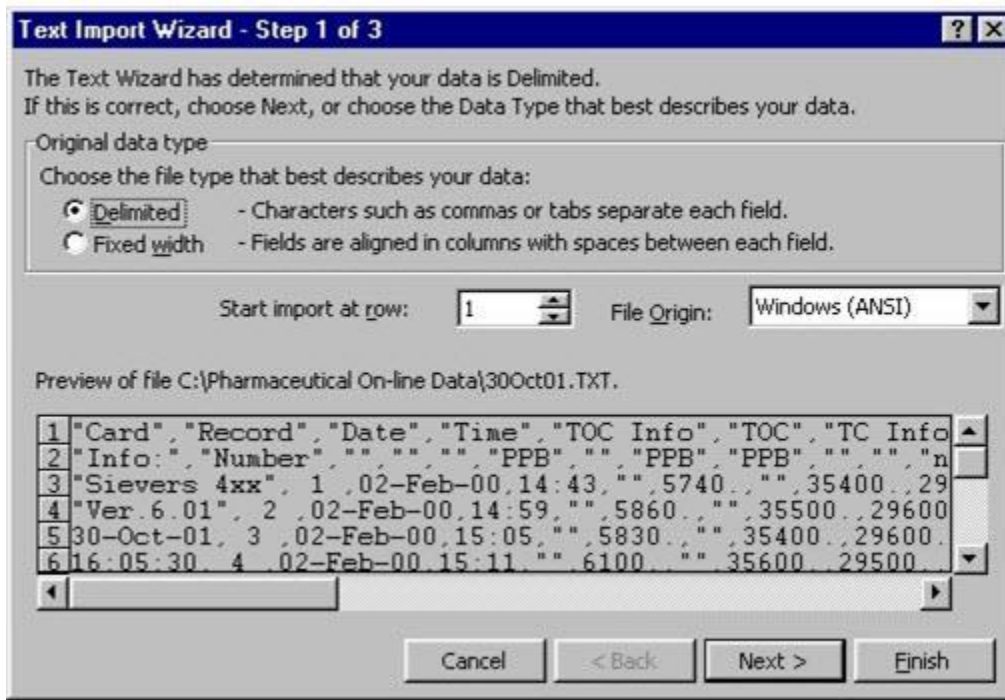

Figure 48: Text Import Wizard – Step 1 of 3
8. If the “Text Import Wizard” dialog box appears (Figure 48: Text Import Wizard – Step 1 of 3), verify that **Delimited** is selected, and then click the **Next** button.